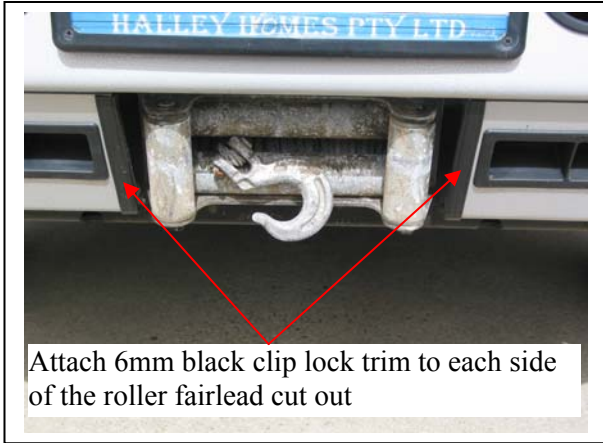

Figure 5
8. Attach the 200mm lengths of 6mm black clip (supplied) to each side of the roller fairlead cut out, trim to edge of skirt. **See figure 5.**